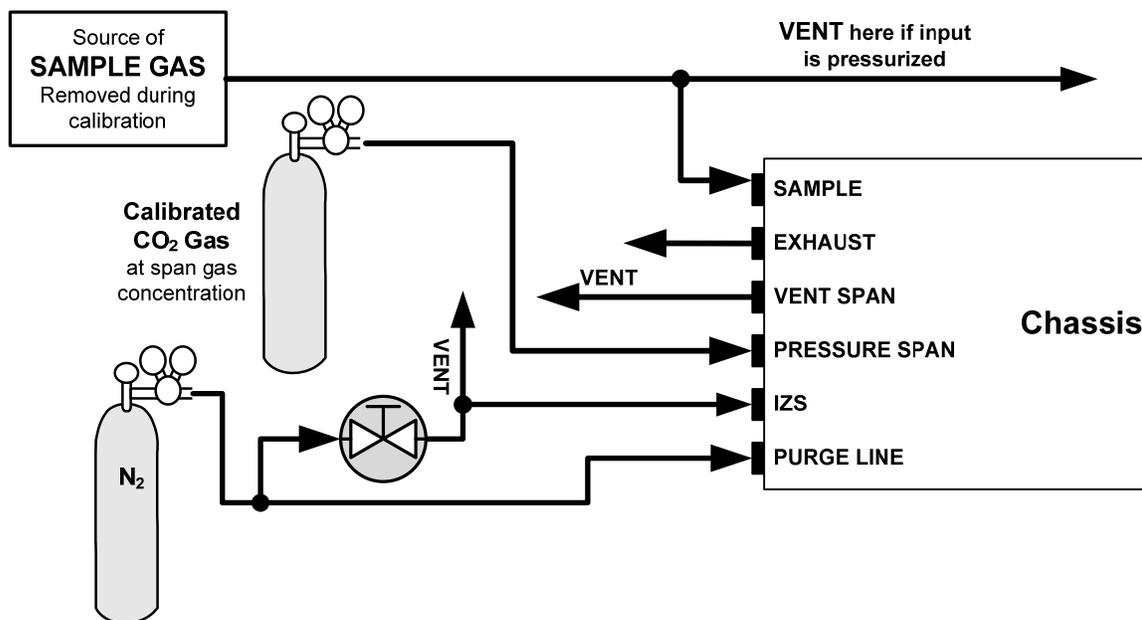

Figure 7-3: Pneumatic Connections – Ambient Zero/Pressurized Span Valves
Figures 7-3 through 7-6 show the proper pneumatic connections for GFC 7000TAs with various optional internal valve sets installed.
**STEP ONE:** Connect the sources of Zero Air and Span Gas as shown in Figures 7-3 through 7-6.